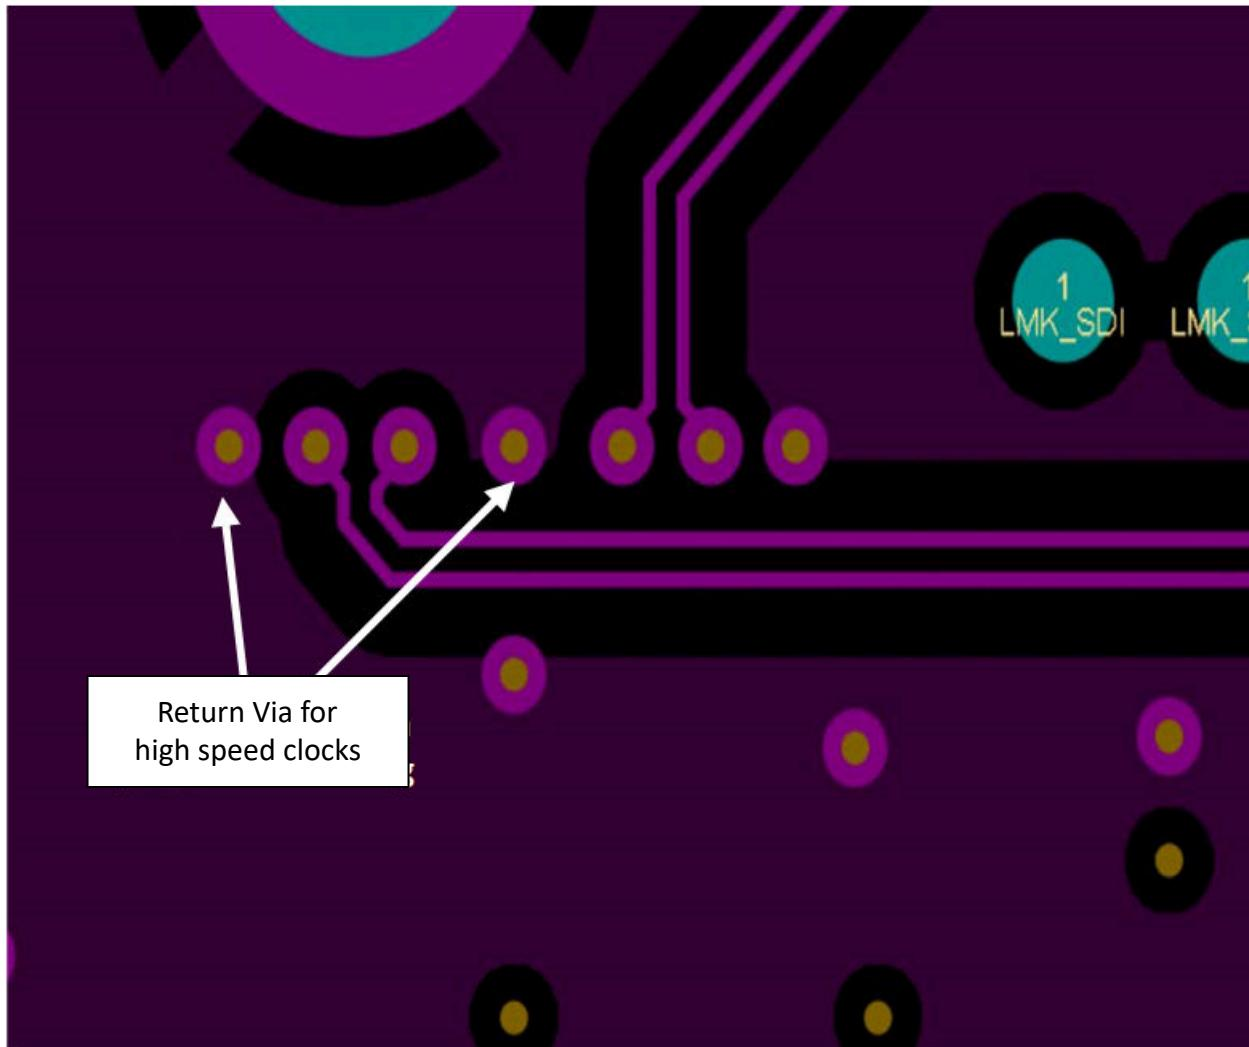

図 8-26. Return Vias for High Speed Clock
8. When high-speed signals must transition to another layer using vias, transition as far through the board as possible (top to bottom is best case) to minimize via stubs on top or bottom of the vias. If layer selection is not flexible, use back-drilled or buried, blind vias to eliminate stubs. Always place two ground vias ("return vias") close to critical high-speed signal trace via when transitioning between layers to provide a nearby ground return path. See 図 8-26 and 図 8-27 as examples.